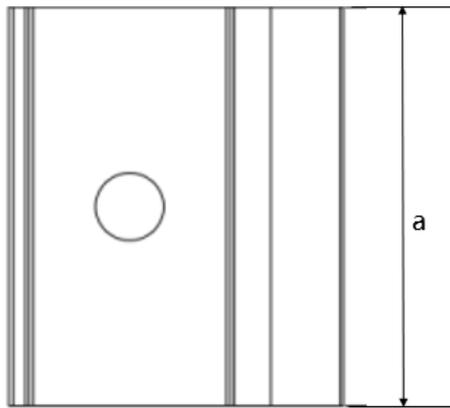
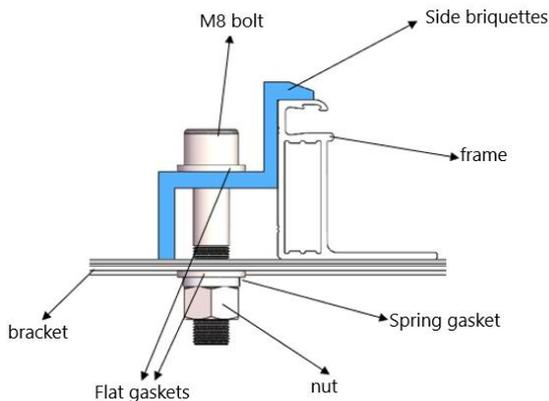

Fig. 7 Top view of fringe clamp
Fig. 9 Installation schematic diagram of fringe clamp
- ② Be sure to avoid shadowing effects from the module clamps. Weep holes on the module frame must not be closed or obscured by the clamps. The clamp must have at least 8mm but no more than 11mm overlap with the frame of the module (The clamp section can be changed under the premise of ensuring reliable installation).
- ③ The top surface of the rail contacted with module frame should be equipped with grooves compatible with an M8 bolt.
- ④ If the grooves are not provided, holes of a suitable diameter may need to be drilled to allow bolts attaching to the rail at the same locations as mentioned above.
- ⑤ Ensure that the mounting sequence of each clamp is in the order of flat washer, spring washer and nut.
- ⑥ Figures 7 and 8 show the schematic diagram of the clamp, while Figures 9 and 10 show the installation schematic diagram of the clamp. The dimensions of the clamp are $a \geq 40$ mm, $b \geq 16$ mm, $c \geq 5$ mm, $d \geq 8$ mm, $e \geq 15$ mm, $\varnothing = 9$ mm, and the thickness of the clamp is ≥ 3 mm. For module of 182/210mm-wafer, the size of mid and fringe clamp must meet $a \geq 60$ mm. The tightening torque is suggested to be 17~23Nm for Class 8.8 screw and bolts.
- ⑦ To prevent modules from coming off the fixed device after installation, it is suggested to choose fringe and mid clamps and make contact with the A side of the frame with groove patterns. Suggest to have 9 patterns with a space between 2 adjacent patterns of 1.2mm and a depth of 0.6mm, as shown in figure 7.